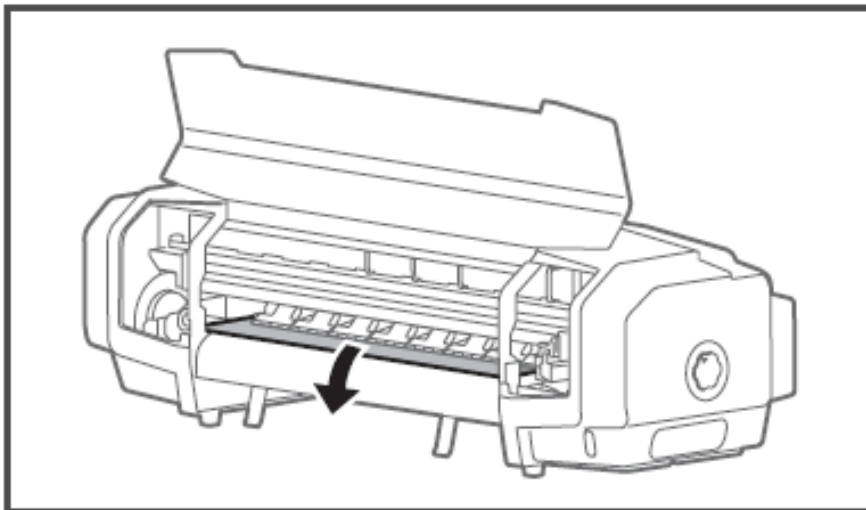

Figure 14
16. Remove the roller protective sheet. See Figure 14.